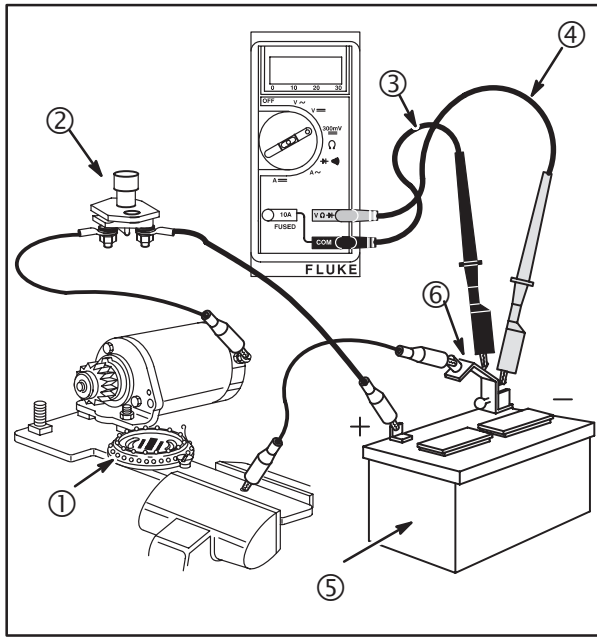

Fig. 51
2. Clamp test bracket in vise, **Fig. 51**.
3. The DC Shunt (6) **MUST** be installed on the **NEGATIVE (-)** battery terminal as shown in **Fig. 51**.
4. Insert **RED** test lead (4) into **VΩ** receptacle in meter. Connect to **RED** post terminal on shunt.
5. Insert **BLACK** test lead (3) into **COM** receptacle in meter. Connect to **BLACK** post terminal on shunt.
- NOTE:** If an optional starter switch (2) is **NOT USED** connecting the **POSITIVE** lead will activate the starter motor.
8. Activate the starter motor. Note reading on meter and RPM on tachometer (1).